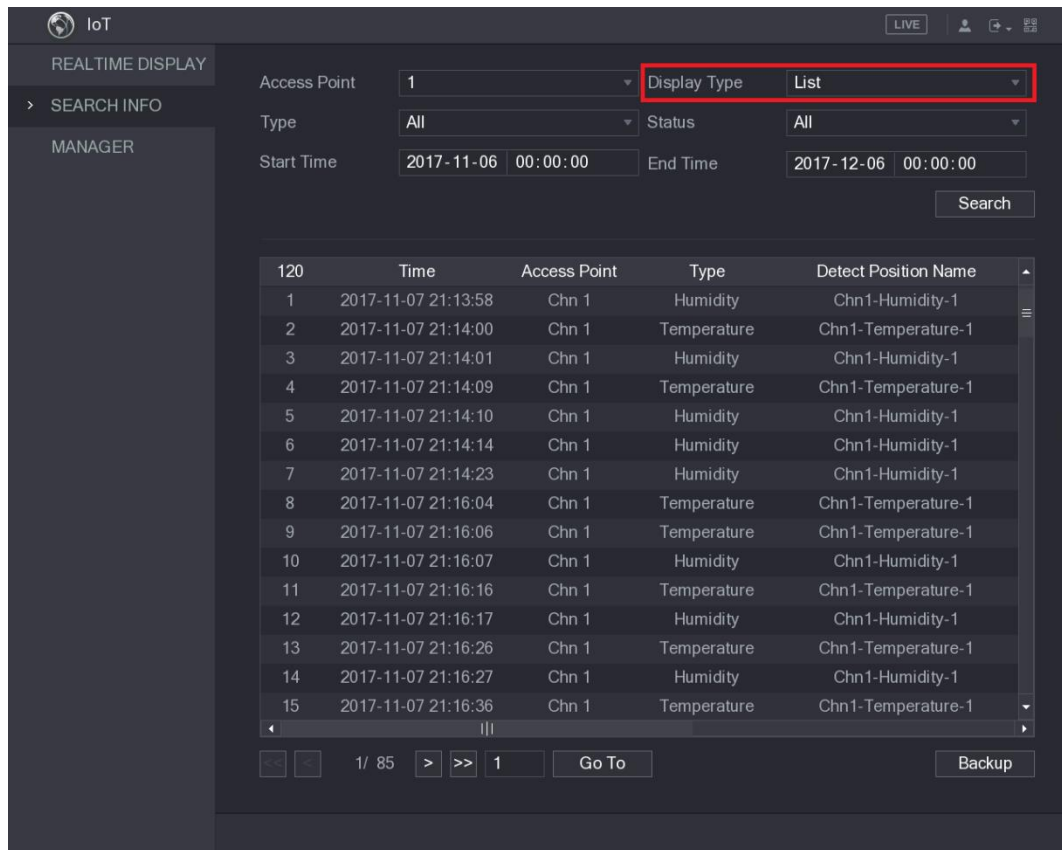

Figure 5-207
- For the data displayed in list, see Figure 5-207.